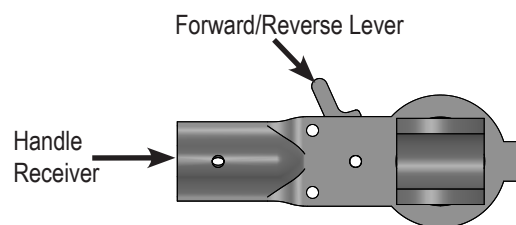

Figure 2
4. If skid shoe is not moving in the proper direction, flip forward/reverse lever on handle (see Figure 2). Rotate ratchet jack handle again to move skid shoe in desired direction.